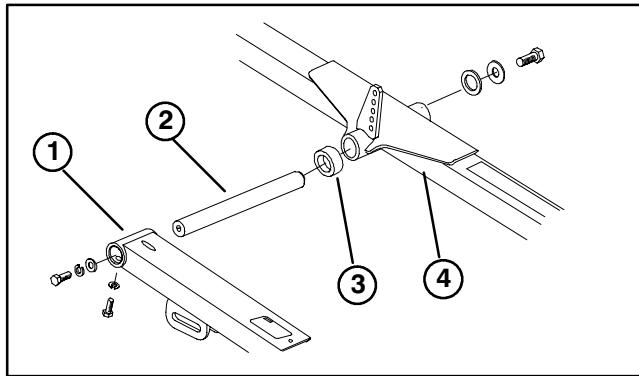

Figure 4
4. Mount new longer pivot shaft to lift arm with fasteners previously removed (Fig. 4). Make sure to use correct O.D. shaft supplied in kit. Discard other shaft.
5. Slide correct I.D. spacer onto pivot shaft (Fig. 4). Make sure to use correct I.D. spacer supplied in kit. Discard other spacer.
6. Slide carrier frame onto pivot shaft and secure with fasteners previously removed (Fig. 4).
5. Slide carrier frame onto pivot shaft and secure with thrust washer and lynch pin previously removed (Fig. 4).